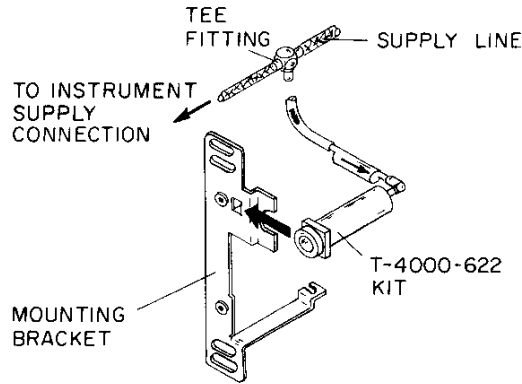

Fig. 22: T-4000-105 & 106 Assemblies
This kit is used to replace an aspirator, restrictor, and/or filter on T-4000-105, -106, and -110 aspirator wallbox assemblies. To install the parts contained in this kit, refer to Figs. 22 and 23 and proceed as follows:
4. On T-4000-105 and -106 assemblies, remove and discard the aspirator, restrictor, filter, and tubing up to the tee fitting. Attach the T-4000-622 assembly to the tee fitting and slide the aspirator into the notch in the mounting bracket (see Fig. 22).